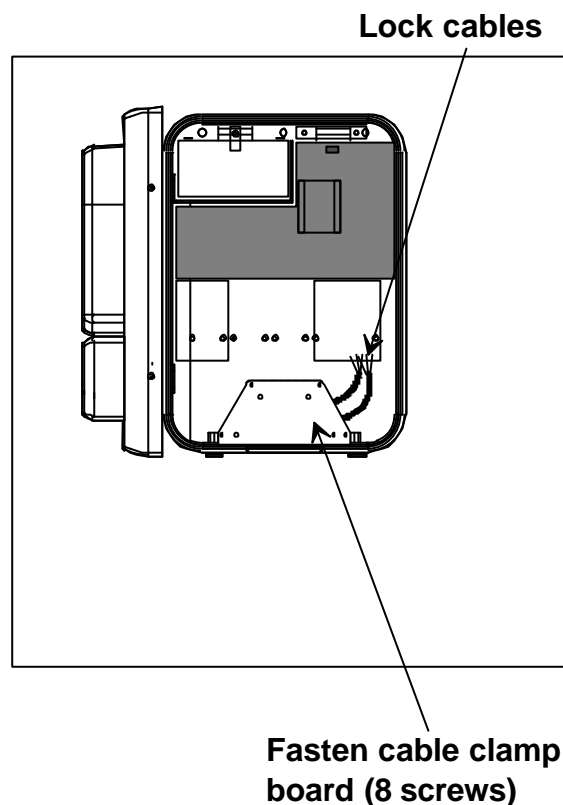

Figure 6: Connecting the cables
2. Line up the cables with the grooves at the back of the terminal (see Figure 6) and screw in the small plate which serves as a cable clamp (use a \varnothing 5mm Philips screwdriver).